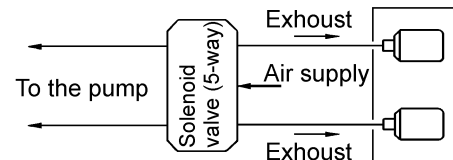

Fig.3-2
- *Exhaust should be directed outside, not into the fluid in which the pump is submerged. For information on how to arrange the exhaust, see Note: Arranging outside exhaust and Fig. 3.2 below.